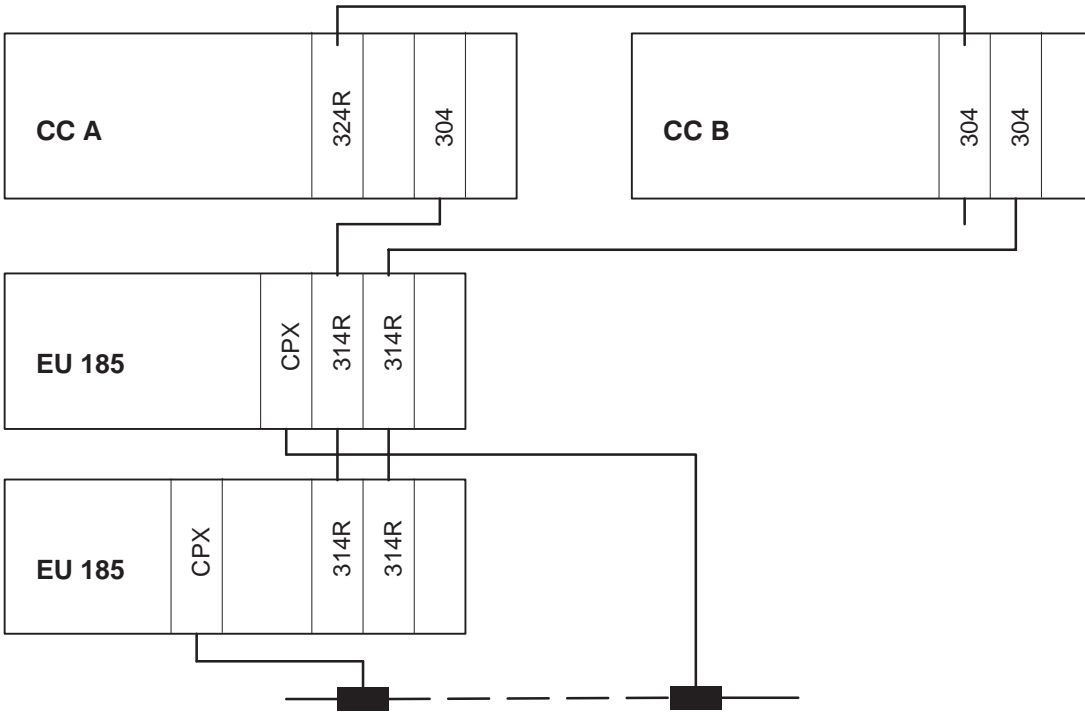

Figure 5-3 Switched Redundant CP Configurations (Variant b)
- b) Switched redundant CP configuration (Figure 5-3)